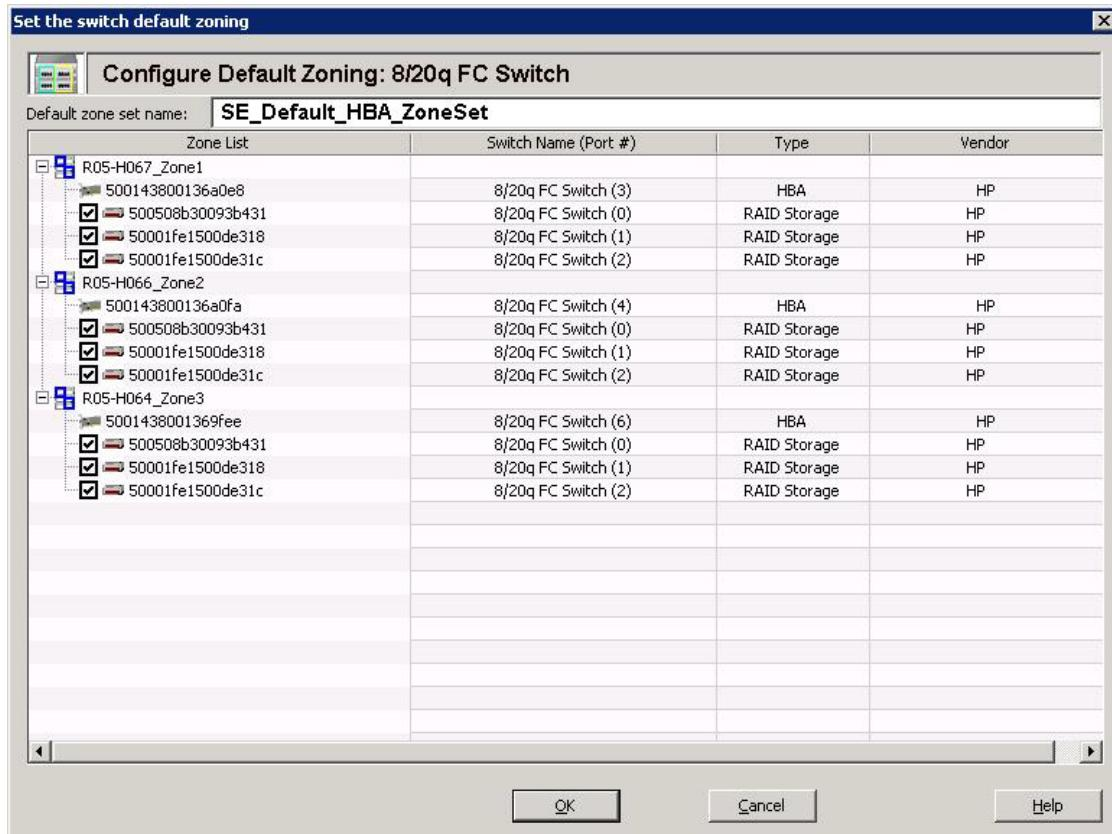

Figure 30 Set the Switch Default Zoning dialog box
2. To close the message box and continue, click **Yes**. To cancel switch default zoning setup, click **No**. The Set the Switch Default Zoning dialog box (Figure 30) opens.